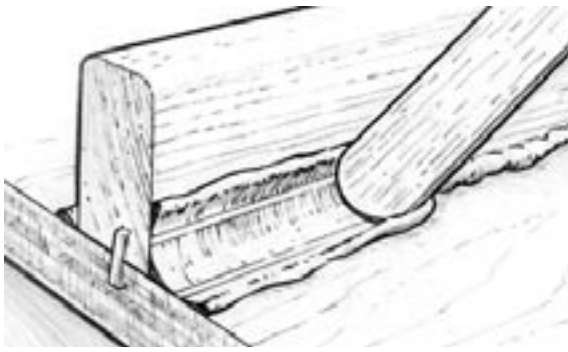

Figure 3-10 Shape and smooth the fillet with a rounded filleting tool.
3. Shape and smooth the fillet by drawing a rounded filleting tool (mixing stick) along the joint, dragging excess material ahead of the tool and leaving a smooth cove-shaped fillet bordered on each side by a clean margin. Some excess filleting material will remain outside of the margin (*Figure 3-10*). Use the excess material to re-fill any voids. Smooth the fillet until satisfied with the appearance. A mixing stick will produce a fillet of about a 9mm radius. For larger fillets, an 808 Plastic Squeegee, cut to shape or bent to the desired radius, is recommended.